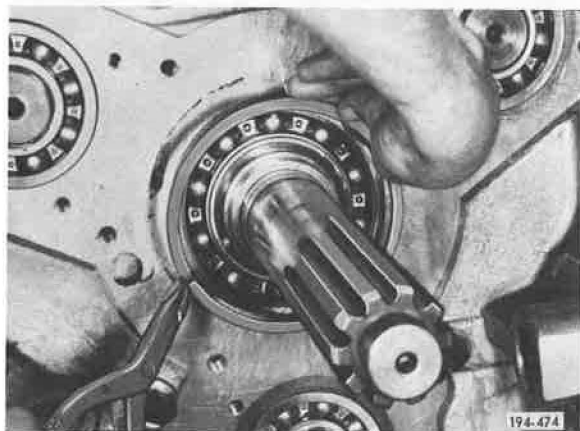

Figure 91. Removing Snap Ring
6. Remove front compound main drive pinion bearing positioning snap ring, using snap ring pliers J-25445, or equivalent. See Figure 91.